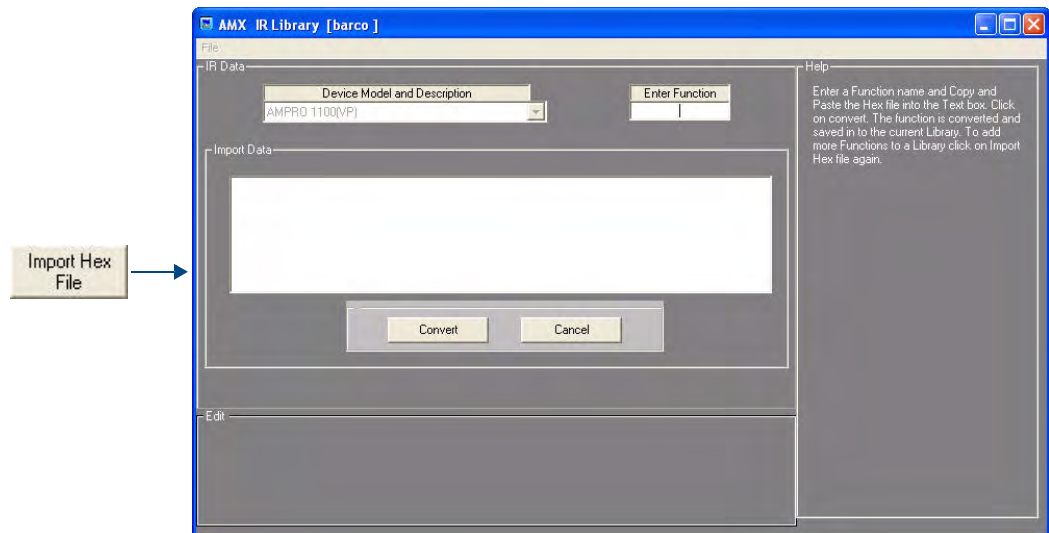

FIG. 53 AMX Library Files dialog - Hex data import and conversion options
1. In the Edit Options window of the AMX Library Files dialog, click **Import Hex File** to access the Hex data import and conversion options (FIG. 53).
- In the Edit Options window of the AMX Library Files dialog, click **Import Hex File** to access the Hex data import and conversion options (FIG. 53).